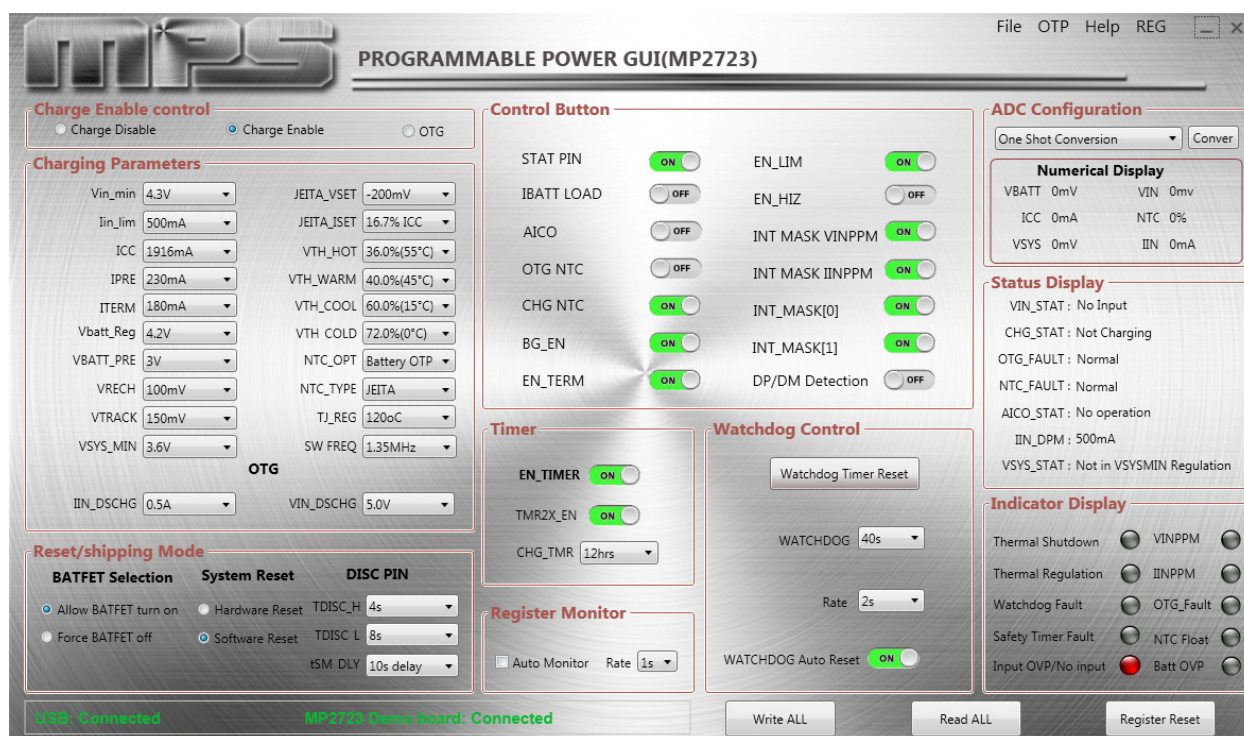

Figure 3: The MP2723 Evaluation Software
1. Turn on the computer, and launch the MP2723 evaluation software. The software's main window should appear (see Figure 3).
1. Ensure that the all components are connected before running the program, and the status in the lower-left side of the GUI is indicated in green (see Figure 3).